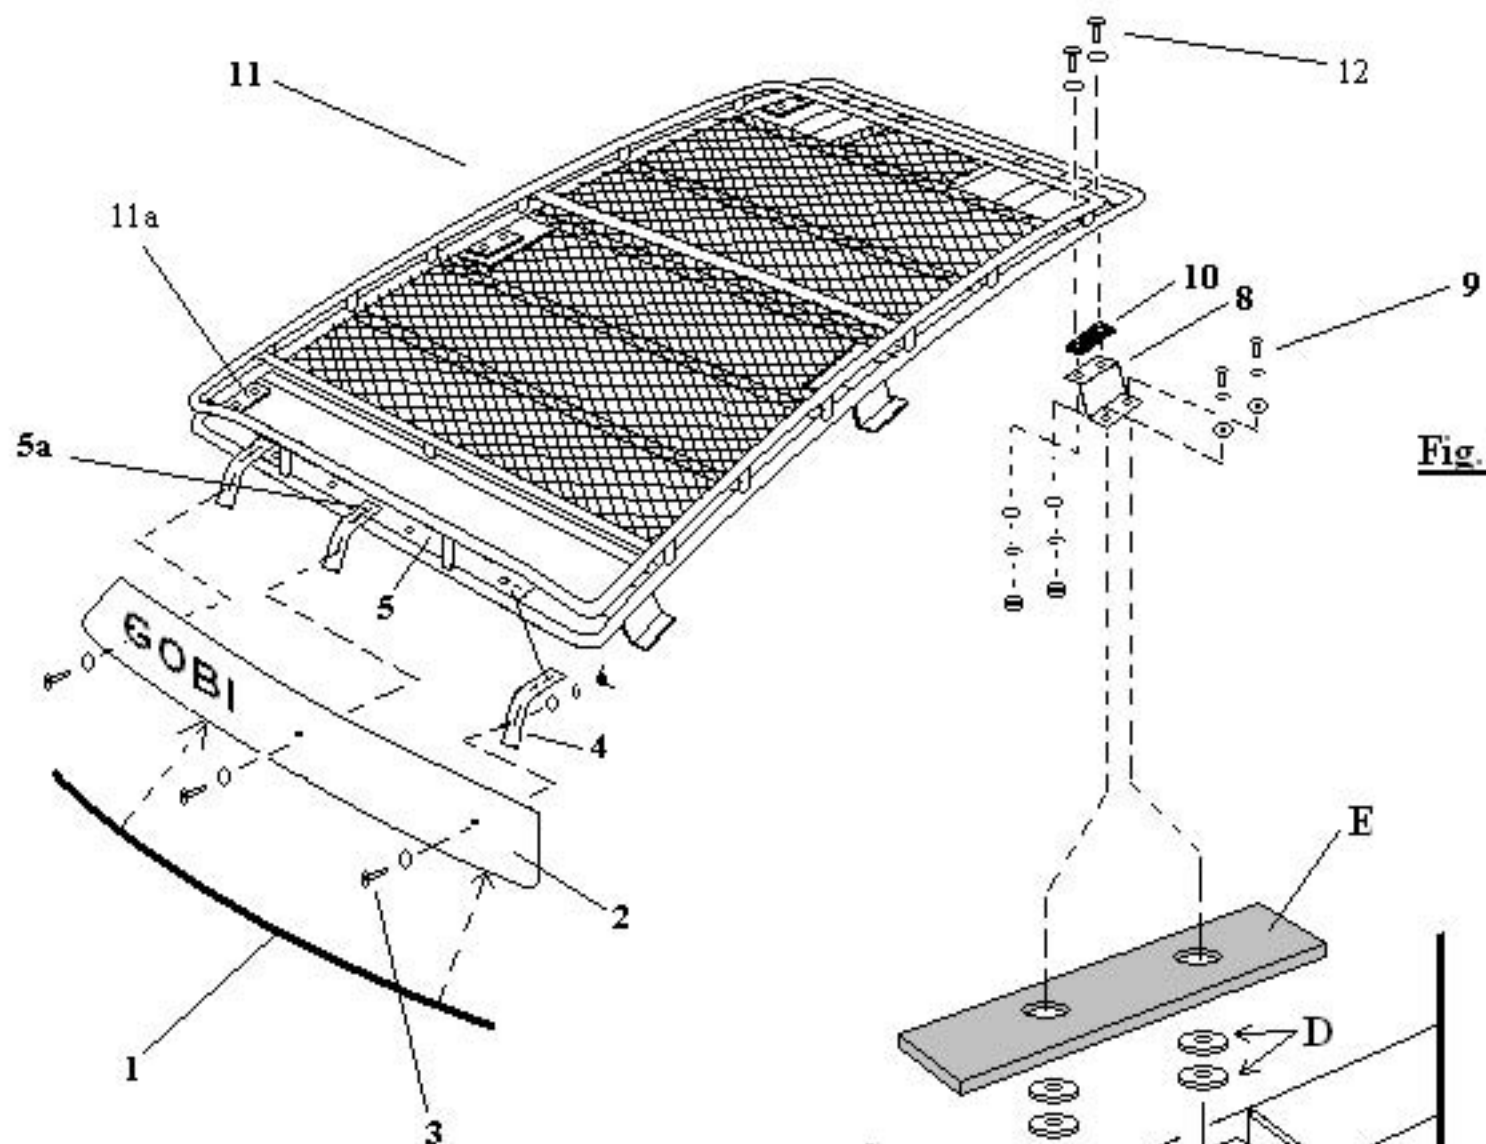
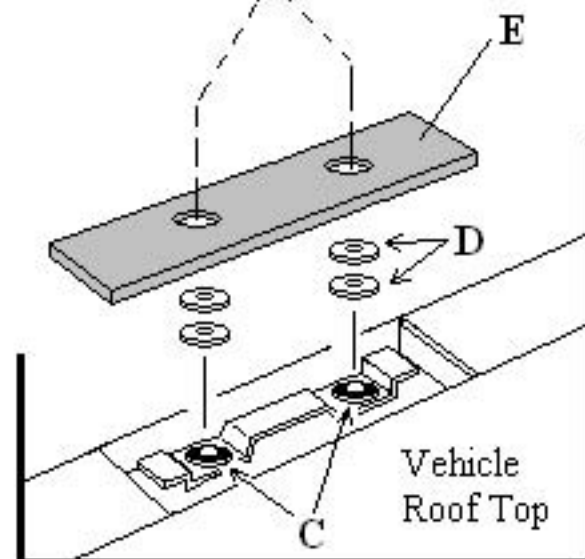
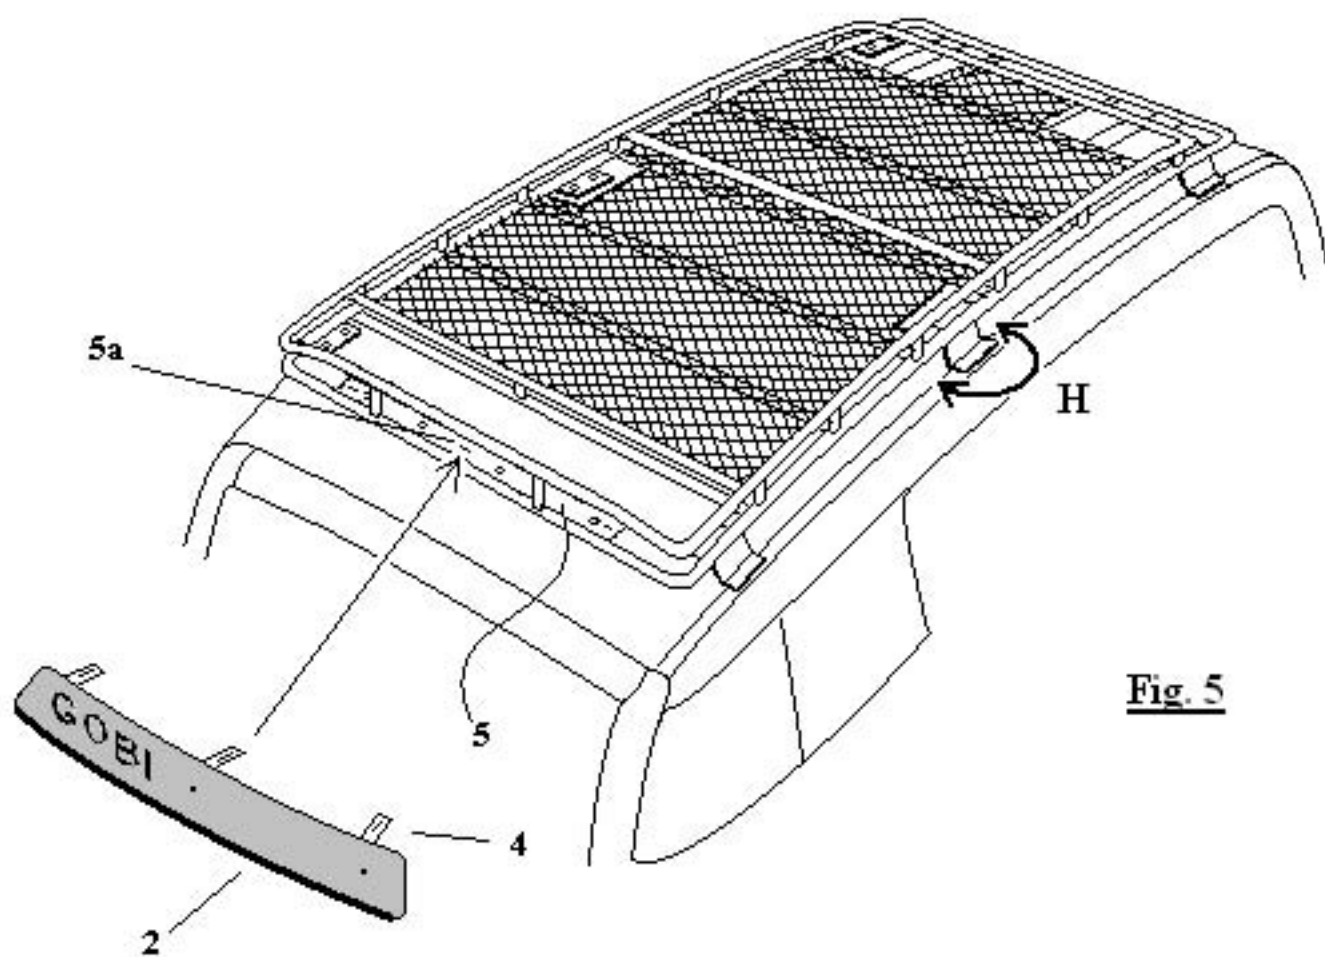
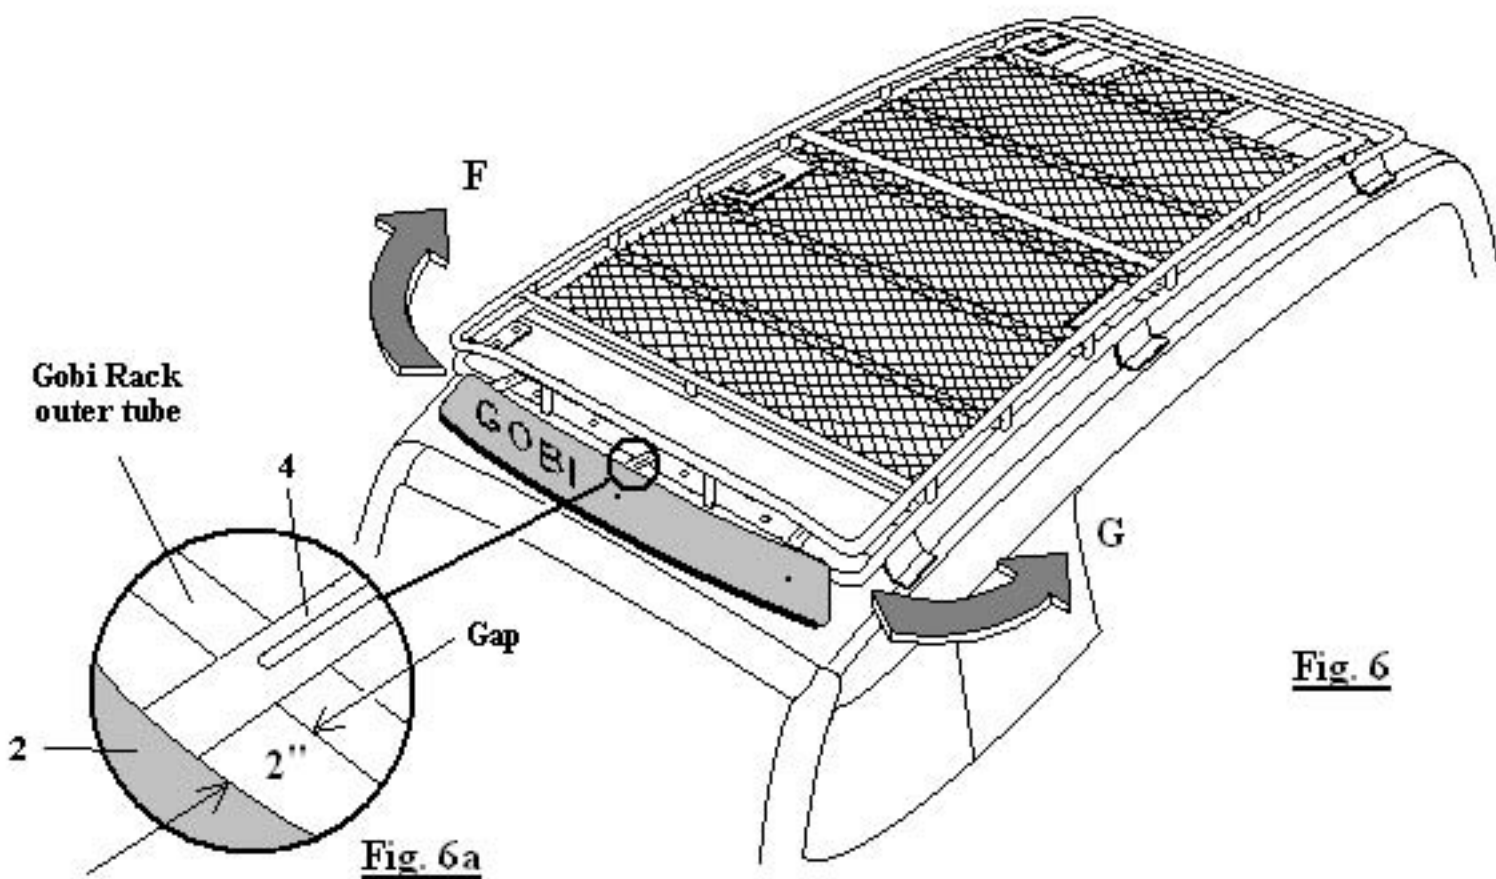

Fig. 4
Fig. 3
Fig. 5
Fig. 6
- 4- Refer to page 4 **Fig. 3** place 2 spacers "D" over each water proof washer "C" then place cover plate "E" over spacers "D".
- 5- As shown on page 4 **Fig. 3** and **4** use the M8 x 40 metric bolts found in hardware bag #3 and slide each bolt labeled #9 with lock washer and flat washer first through Gobi support bracket #8 then through cover plate "E" through spacers "D" and finally into vehicle roof bracket. Finger tighten all 12 bolts through all 6 Gobi support brackets #8 in the same manner.
- 6- Using at least two people, carefully place the Gobi roof rack #11 in position on top of all 6 Gobi support brackets #8 as shown on page 4 **Fig. 4**. Install all 6 rubber pads #10 located in bag #4 between the Gobi roof rack welded in brackets #11a and the Gobi support brackets #8 as shown on page 4 **Fig. 4**. Using the 3/8-16 x 1" bolts located in bag #4 along with the 3/8" flat washers install all 12 bolts and washers labeled #12 through the Gobi welded in brackets #11a then through Gobi support bracket #8. Thread all twelve 3/8" Nylock nuts and washers located in bag #4 to each bolt as shown on page 4 **Fig. 4** labeled #12 then align each Gobi support bracket #8 to the roof rack and vehicle as shown on page 5 **Fig. 5** labeled "H". Once bracket alignment is complete fully tighten the Gobi rack #11 to each Gobi support bracket #8 then completely tighten all Gobi support brackets #8 to vehicle roof top as shown on page 4 **Fig. 3** and **4**.
- 7- Refer to page 5 **Fig. 5** #2 fairing; the fairing comes pre-assembled with fairing brackets #4 attached. The position of each attached fairing bracket may not be fixed at the proper height for your particular roof line. Adjustments will have to be made in order for the fairing to form correctly to your vehicle's roofline. Begin by attaching the fairing's center bracket to the middle slot #5a of the Gobi roof rack light bar #5 shown on page 5 **Fig. 5** use the 1/4" bolts, washers and wing nuts supplied in bag #2. Provide approximately a 2" gap between the fairing and the Gobi rack outer tube as shown on page 5 **Fig. 6a**, tighten down the center nut and bolt at this time. Proceed to either the right or left hand side and pull the fairing in the direction of the arrows on page 5 **Fig. 6** letters "F" and "G" while pushing down on the fairing towards the roof top at the same time. Pull each side until the fairing either makes contact with the Gobi roof rack or comes in close proximity. Align fairing brackets #4 to the Gobi light bar fairing slots at the ends of the Gobi light bar #5 and insert the 1/4" bolt and washer through the fairing bracket #4 then through the Gobi light bar slot and secure the fairing in place with the 1/4" washer and wing nut. Proceed to the opposite side and continue attaching the fairing in the same manner. Be sure that the fairing through out its length is making contact with the roof top as snug as possible, fairing brackets may need to be adjusted either up or down and in some cases you may bend the fairing bracket to accommodate the final result. Once the fairing is in the proper position tighten all fairing bracket screws firmly. Roof rack installation is complete.